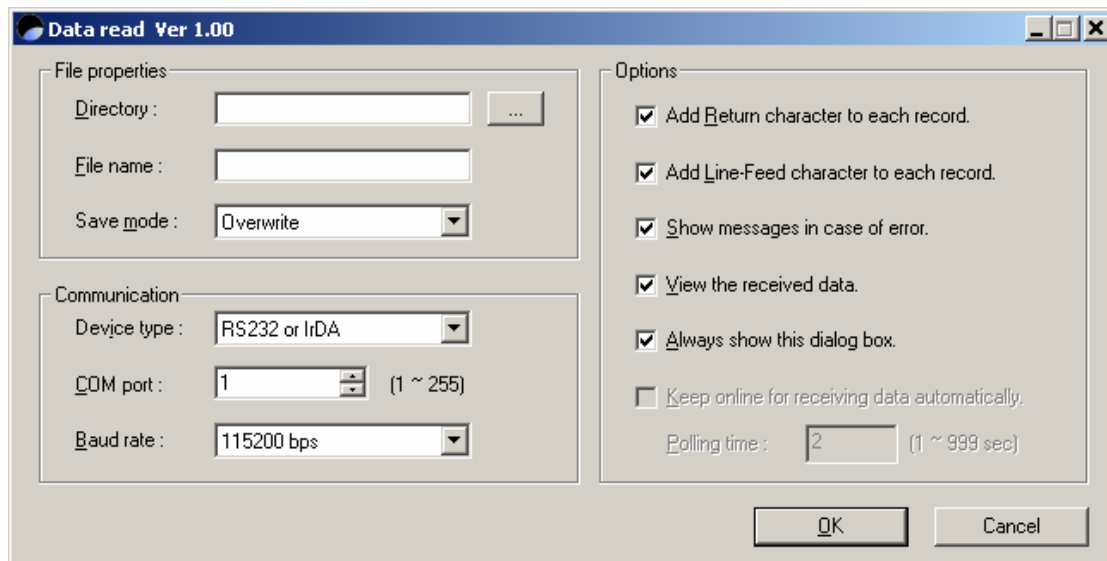

Figure 3: Upload Window
14. From the Optimizer program, choose the "Tools" menu item, then "Communication", and finally "Receive Data". The upload window will open (see **Figure 3**).
18. From the Optimizer program, choose the "Tools" menu item, then "Communication", and finally "Receive Data". The upload window will open (see **Figure 3**).